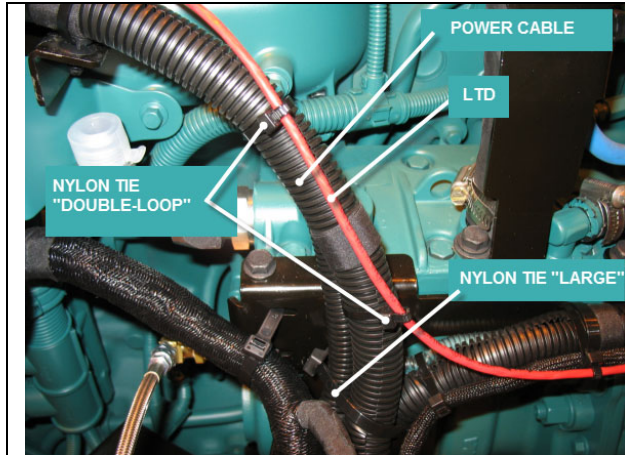

FIGURE 15
9. Reinstall the LTD along the power cable using double-loop nylon ties #507664. For proper installation and location, refer to FIGURE 9 to FIGURE 13. You can also refer to the pictures of the production line standard installation; see FIGURE 15 to FIGURE 19 to do so.